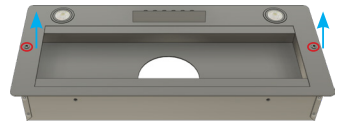

Figure 1
- Remove the Baffle Filters and the Screws on both sides. **(Figure 1)**